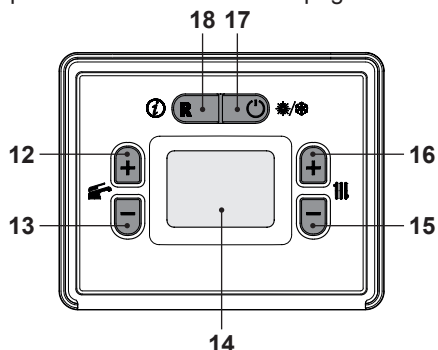

Fig. 8.19
- By using buttons 15 or 16 (Fig. 8.19) it is possible to modify the value of parameter A02:
- Press 12 or 13 (Fig. 8.19) to confirm the value entered and return to the list of parameters (Fig. 8.20).
- Press the 17 button (Fig. 8.19) to exit “programming mode”.